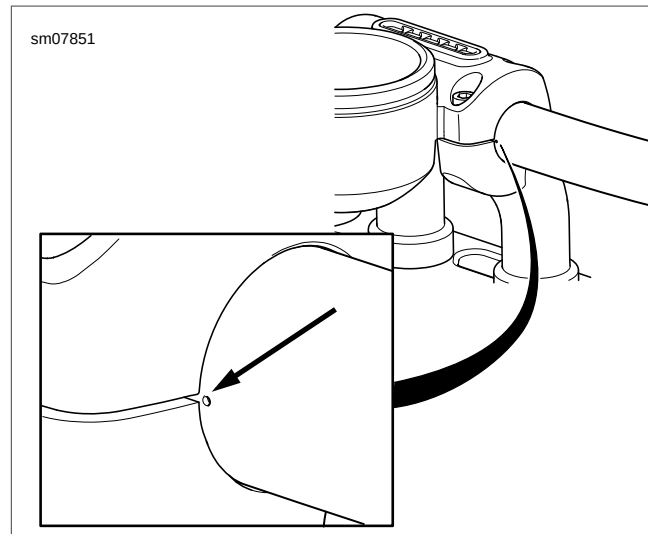

Figure 2-100. Alignment Marks
1. See Figure 2-100. Place handlebars on lower handlebar clamps. Using the two indicator marks near the center of the handlebar as a guide, center handlebars between lower handlebar clamps.